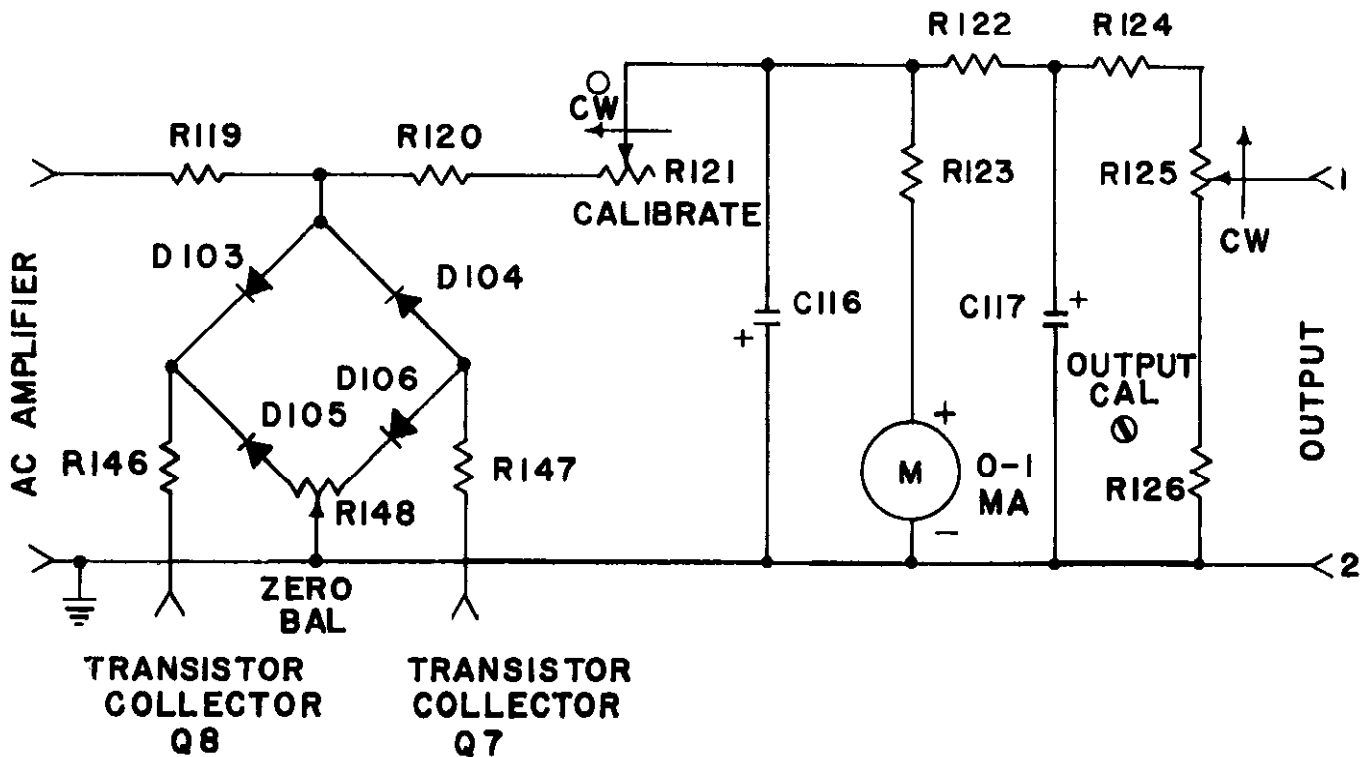
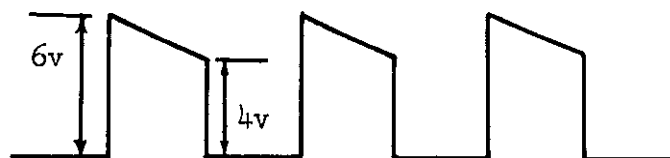

Figure 12. Synchronous Demodulator Meter - Output
Figure 13
3-4. THE SYNCHRONOUS DEMODULATOR, METER AND OUTPUT: (Fig. 12) The output of V2b is coupled through C115 and R119 to a demodulator bridge circuit consisting of D103 through D106. The bridge is driven through R146 and R147 from the collectors of Q7 and Q8. Since the center tap of the collector winding is at ground, the drive signal is balanced to ground. When the junction of D103 and D105 is positive with respect to the junction of D104 and D106, the diodes are conducting and the junction between R119 and R120 is effectively grounded. When the polarity is reversed, the bridge is open circuited. Therefore, the signal is rectified in this manner. The output travels through R120, R121 and then is split. Part of the current drives the meter and the remainder the output. R121 is the calibration control. It is located on the front panel. On the CAL position of the range switch, R127 is switched in and this potentiometer is used to correct the meter reading if necessary. R125 allows calibration of the recorder terminal.
4. SYNCHRONOUS DEMODULATOR - METER OUTPUT (Figure 12): Connect an oscilloscope to the junction of R-119 and R-120 and compare this wave form with Figure 13.